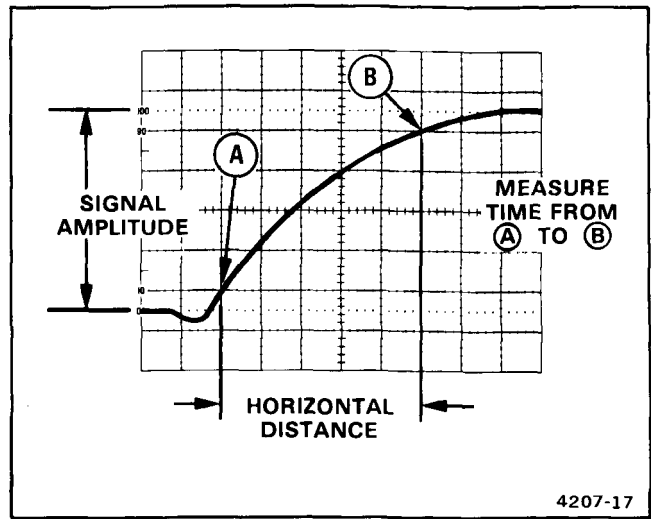

Figure 4-7. Rise time.
Rise-time measurements use the same methods as time duration, except that the measurements are made between the 10% and 90% points on the leading edge of the waveform (see Figure 4-7). Fall time is measured between the 90% and 10% points on the trailing edge of the waveform.
4. Adjust vertical positioning so that the zero reference of the waveform touches the 0% graticule line and the top of the waveform touches the 100% graticule line (see Figure 4-7).
6. Horizontally position the display so the 10% point on the waveform intersects the second vertical graticule line (see Figure 4-7, Point A).
**EXAMPLE:** The horizontal distance between the 10% and 90% points is 5 divisions (see Figure 4-7), and the A SEC/DIV switch is set to 1  $\mu\text{s}$ . The X10 magnifier knob is pushed in (1X magnification).